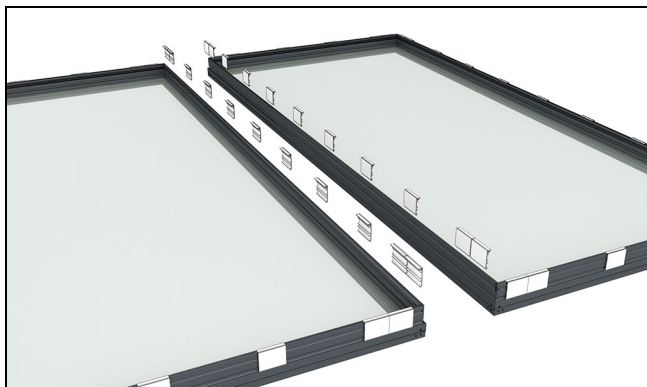
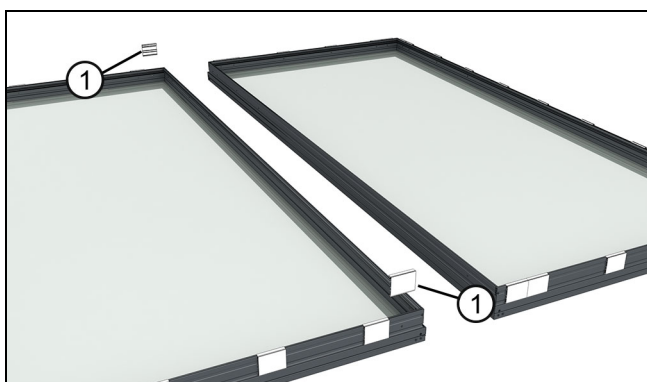

Figure 72
Figure 73
3. Remove any shim blocks along the mulls (if not already done from the factory). Also remove shim blocks from the top and bottom corners adjacent to the mull on units that will **not** have the steel attached to it first. See Figure 72 and Figure 73.